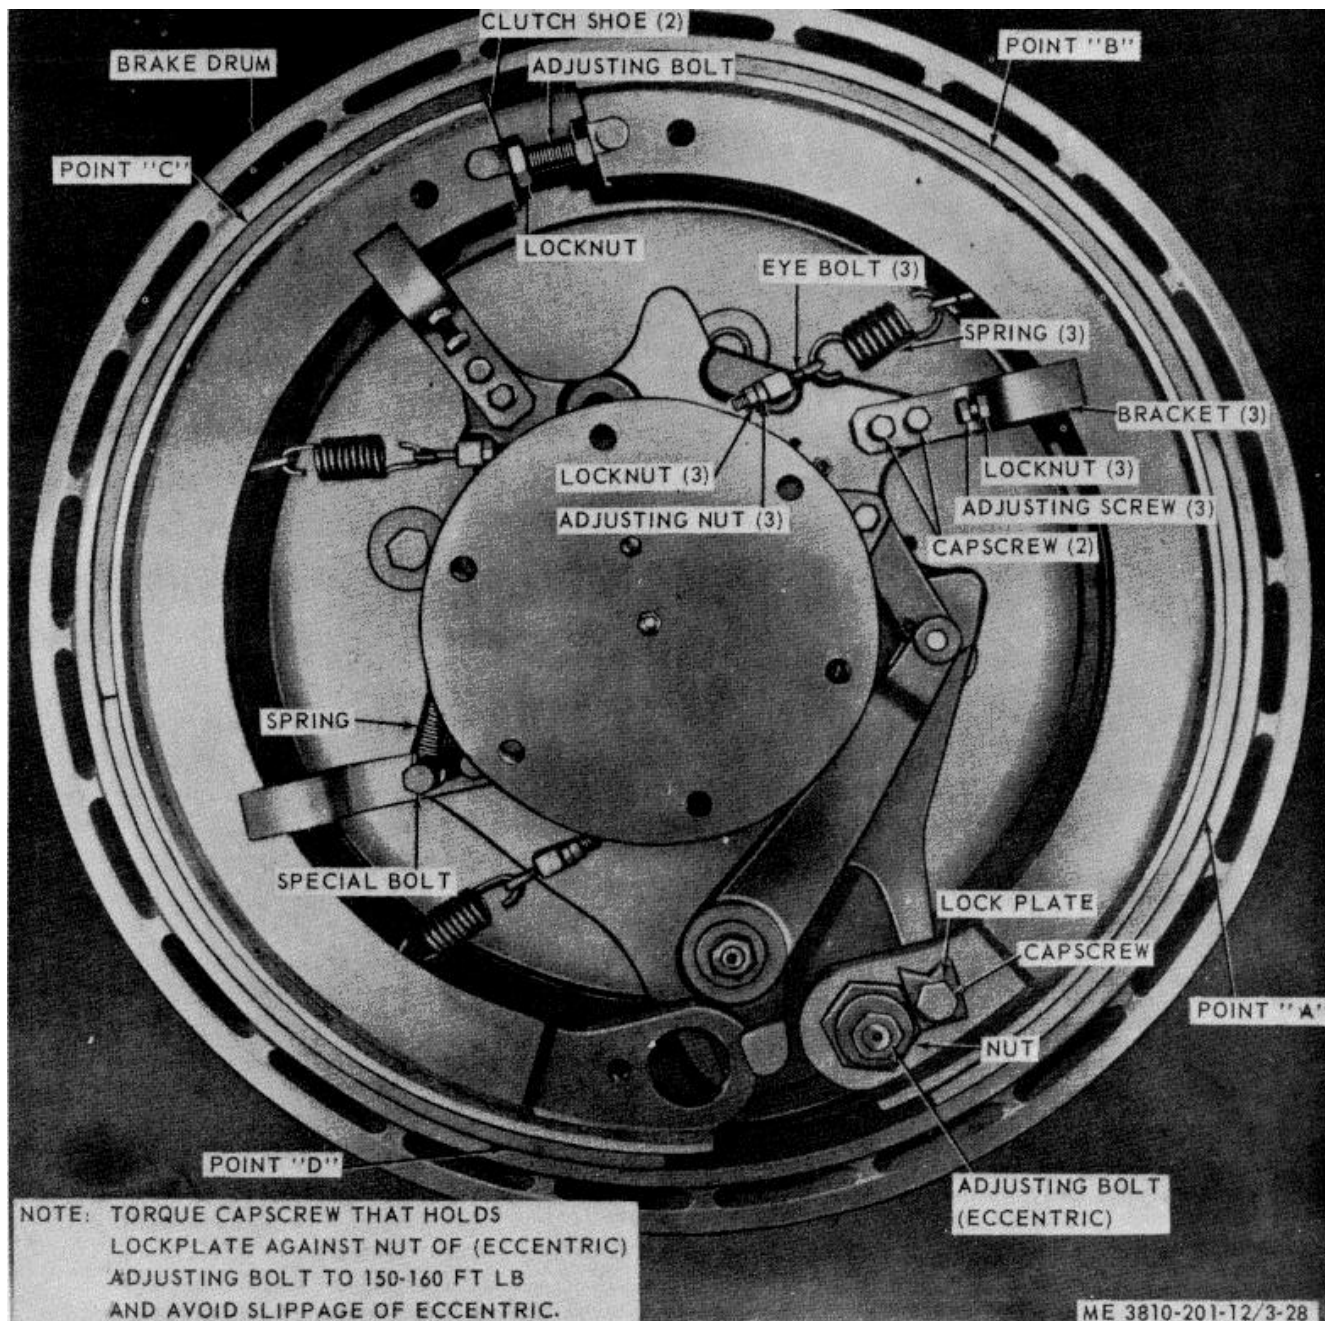

Figure 3-28. Hoist clutch shoes adjustment and removal points.
(1) Remove capscrew and lockplate then rotate adjusting bolt (same as fig. 3-28) until there is between 0.012 and 0.015 inch clearance between shoe lining and clutch drum at dead end. Be sure shoes are not tilted in drum (see note in a above).
b. Main Hoist or Digging Clutch Lining Wear Adjustment. To compensate for lining wear on main clutch, loosen locknut on adjusting bolt (fig. 3-28) and
(1) When clearance between clutch shoe lining and the clutch drum at points A, B and C (fig. 3-28) exceeds 3/32 inch, or when new clutch shoes are installed, the clutch must be adjusted for proper lining clearance.
(2) To adjust clearance at point A, remove capscrew and lockplate then rotate adjusting bolt (eccentric) until a minimum clearance of 1/32 inch is obtained at point A.
(3) Establish approximately 1/16 inch clearance at points B and C by backing off locknut (2) and turning the two adjusting screws until clearance is correct.
(4) The tension of three springs (fig. 3-28) should be adjusted just tight enough to prevent clutch shoes from engaging the clutch drum when machinery is rotated at full speed. These springs should not be tighter than necessary to prevent clutch shoes from dragging.
(5) It may be necessary to bend the two brackets slightly to get a good fit of the clutch shoe within the clutch drum.